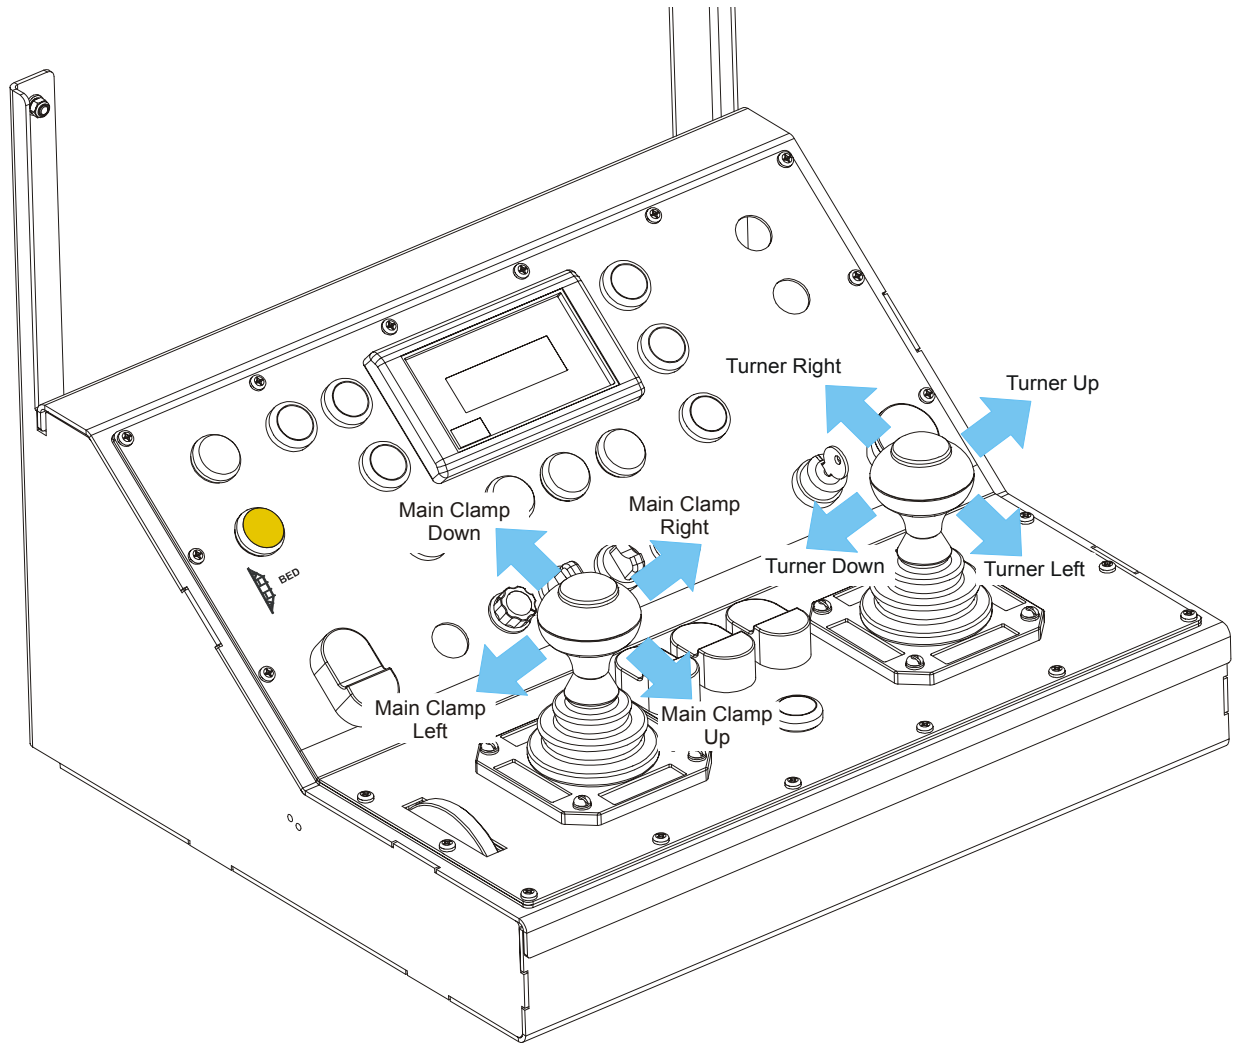

FIG. 4-1
**See Figure 4-1.** The control includes several sets of buttons for controlling how the sawmill is programmed to cut a log. A description of each control component is provided below.